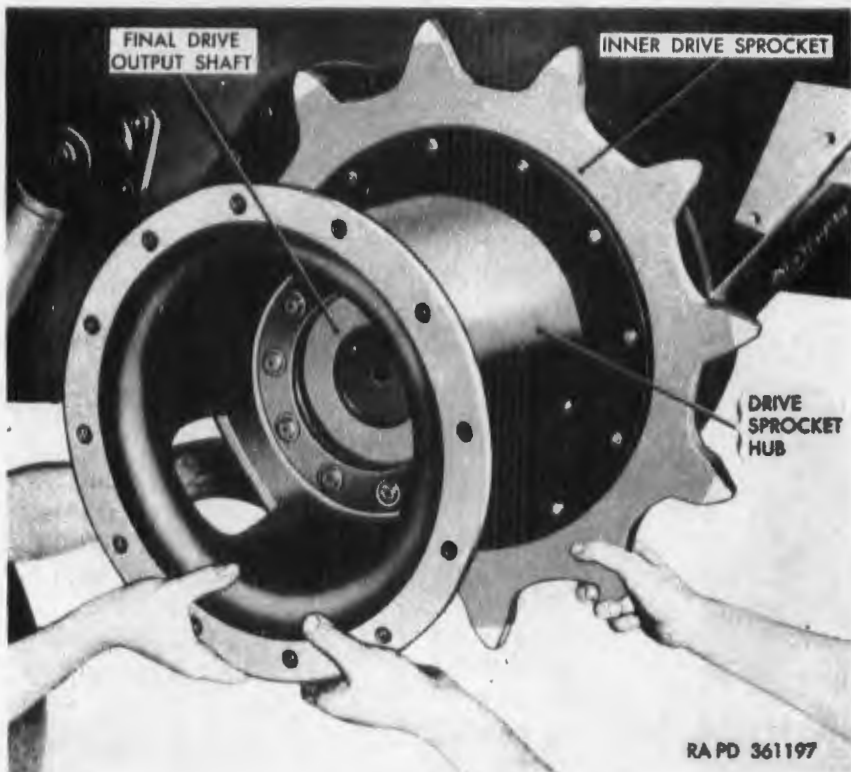

Figure 197. Removing or installing hub and inner drive sprocket.
a. Removal. Disconnect track (par. 220*b*) and remove from drive sprockets. To remove the outer drive sprocket (fig. 196), remove the 12 self-locking bolts that secure it to the drive sprocket hub and lift off sprocket. To remove the drive sprocket hub and inner drive sprocket (fig. 197), remove 10 nuts that secure the hub to the final drive output shaft, and lift hub and sprocket from shaft. To remove inner drive sprocket, remove the 12 self-locking bolts that secure it to the hub and lift off sprocket.
c. *Installation.* Position inner drive sprocket (fig. 197) on drive sprocket hub and secure with twelve $\frac{5}{8} \times 1\frac{3}{4}$ self-locking hex-head bolts. Tighten bolts to 140 to 150 pound-feet torque. Install hub and inner drive sprocket on drive shaft mounting studs and secure with ten $\frac{3}{4}$ -inch safety nuts, tightened to 280 to 300 pound-feet torque. Position outer drive sprocket on hub and secure with twelve $\frac{5}{8} \times 1\frac{3}{4}$ self-locking hex-head bolts. Tighten bolts to 140 to 150 pound-feet torque. Connect track (par. 220e(6)).